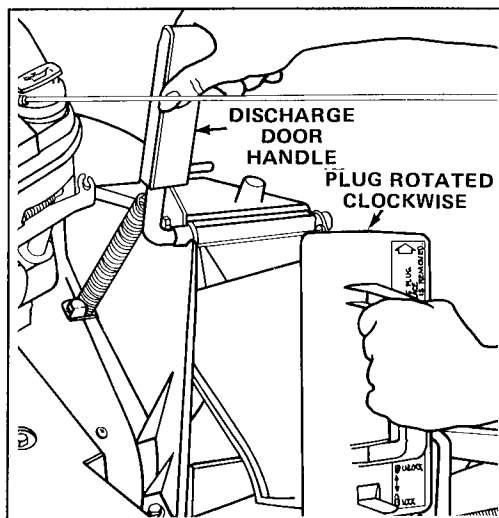

Figure 10
1. Make sure engine is off. Open the discharge door by pulling forward on the handle and moving it rearwards (Fig. 10). Hold the discharge door handle to prevent the spring-loaded door from closing while inserting the plug.
2. Since the plug is slightly wider than the discharge tunnel opening, you must rotate the plug clockwise slightly while inserting it (Fig. 10). Make sure the